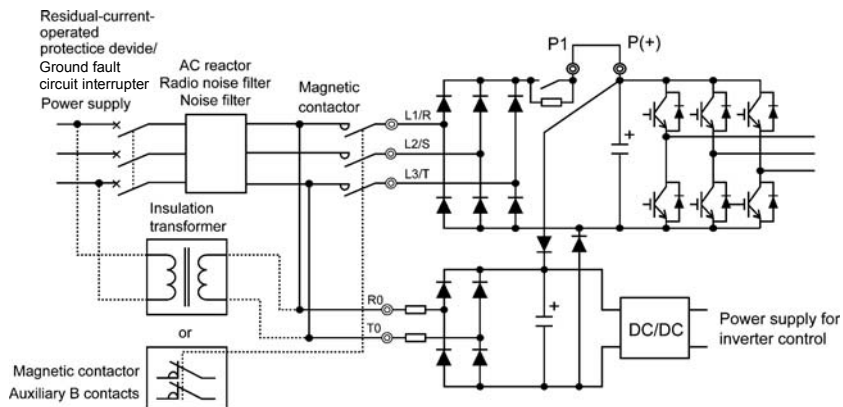

Figure 2.17 Connection Example of residual-current-operated protective device (RCD)/ Ground Fault Circuit Interrupter (GFCI)
**Note** When introducing a residual-current-operated protective device (RCD)/ground fault circuit interrupter (GFCI), connect its output (secondary) side to terminals R0 and T0. Connecting its input (primary) side to those terminals causes the RCD/GFCI to malfunction since the input power voltage to the inverter is three-phase but the one to terminals R0 and T0 is single-phase. To avoid such problems, be sure to insert an insulation transformer or auxiliary B contacts of a magnetic contactor in the location shown in Figure 2.17.